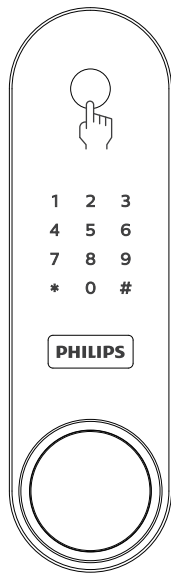

Figure 2
1. Open safe door and press the red setting button '  ' on the battery compartment. After hearing a voice prompt 'Please enter fingerprint or PIN code', enter your fingerprint as shown in Figure 2. A voice prompt 'Fingerprint entering succeeded,' indicates successful operation. If the entering fails, there will be a voice prompt 'Fingerprint entering failed'. The system will automatically exit if there is no entering in 8 seconds.